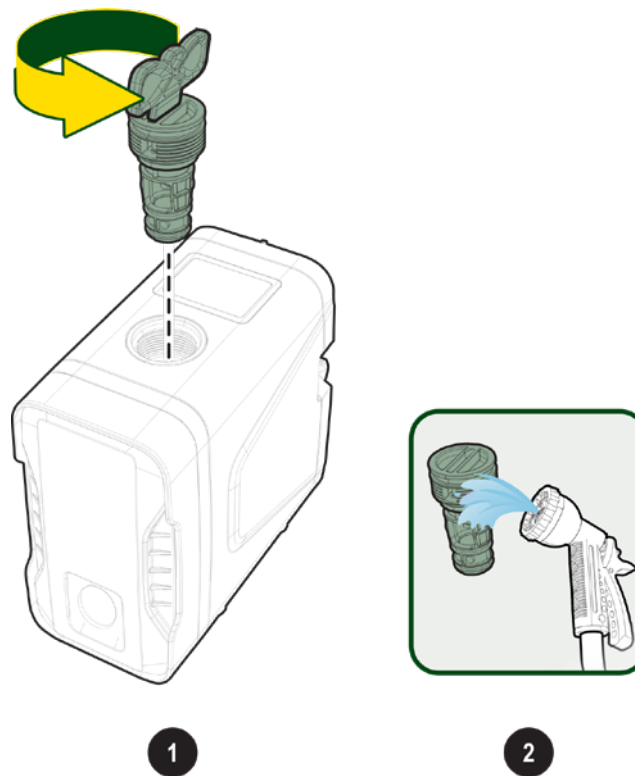

Fig. 22 Cleaning non-return valve
- using the key accessory, remove the cap (see Fig. 22 Cleaning non-return valve);